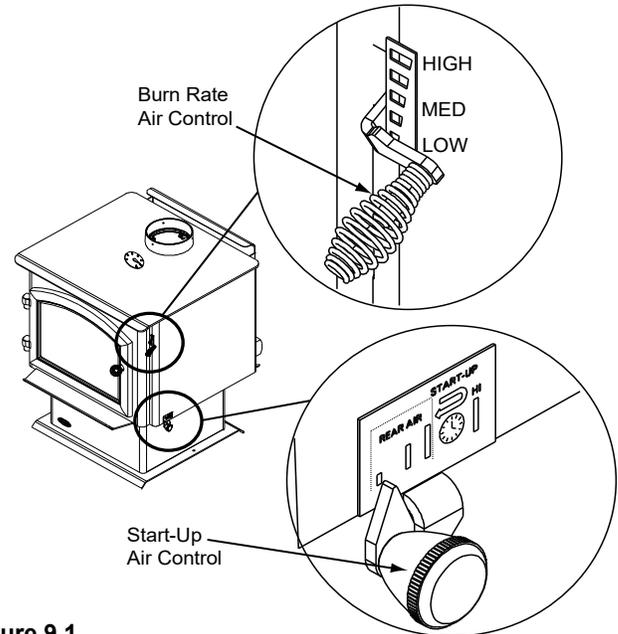

Figure 9.1
The next stage of burning, the secondary stage, is the period when the wood gives off flammable gases which burn above the fuel with bright flames. During this stage of burning it is very important that the flames be maintained and not allowed to go out. This will ensure the cleanest possible fire. If the flames tend to go out, it is set too low for your burning conditions. The air control located at the upper right hand corner is used to adjust for burn rates. This is called the Burn Rate Air Control (Figure 9.1 on page 9).
This air supply enters at the upper front of the firebox, near the top of the glass door. This preheated air supplies the necessary fresh oxygen to mix with the unburned gases, helping to create second, third and fourth combustions. This air is regulated by the Burn Rate Air Control. When the control is moved all the way up it is on the High setting and when moved all the way down it is on the Low setting (Figure 9.1).
Open both Burn Rate Air Control and ACC systems fully. To do this with the Burn Rate Air Controls push spring handle up to high. For the ACC timer system push knob towards back of appliance until the knob is located under the high position (Figure 9.1).
To maximize heat output with the ACC timer System or also known as high burn push the ACC Air Control lever towards the back of the appliance and leave. This combined with having the main burn rate control lever pushed up will deliver the most amount of air needed to achieve the highest amount of heat output (Figure 9.1).
- Then activate the ACC timer system by pushing the knob all the back toward the appliance to “HI” then pull forwards towards the front of the appliance until the knob stops (Figure 9.1 on page 9).